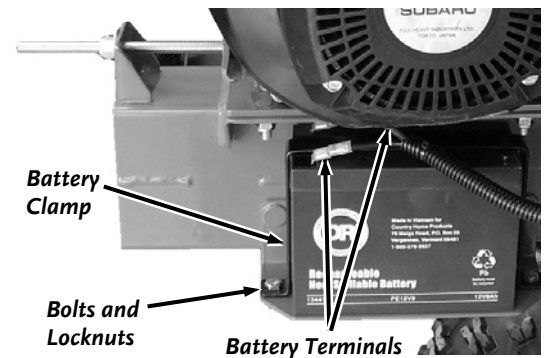

Figure 34
1. Disconnect the Battery Terminals (**Figure 34**).